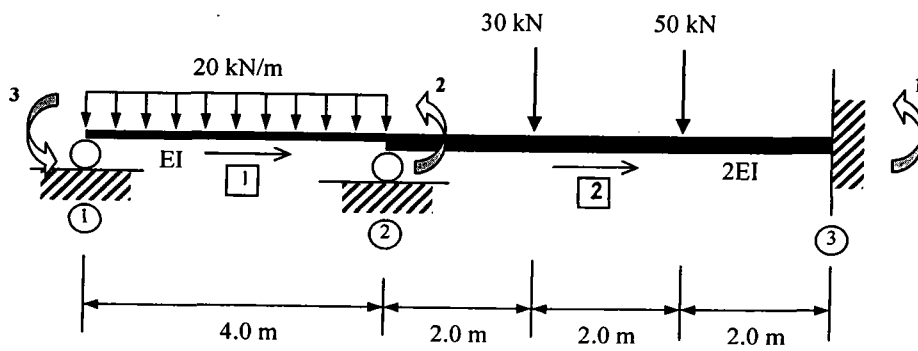

Figure 2 / Rajah 2
- (b) Figure 2 shows a beam with moment of inertias of EI and $2EI$ for member 1 and 2, respectively. The beam is supported by rollers at nodes 1 and 2 and fixed at node 3. The beam is subjected to a 20 kN/m uniformly distributed load on member 1 and two concentrated loads, 30 kN and 50 kN on member 2.